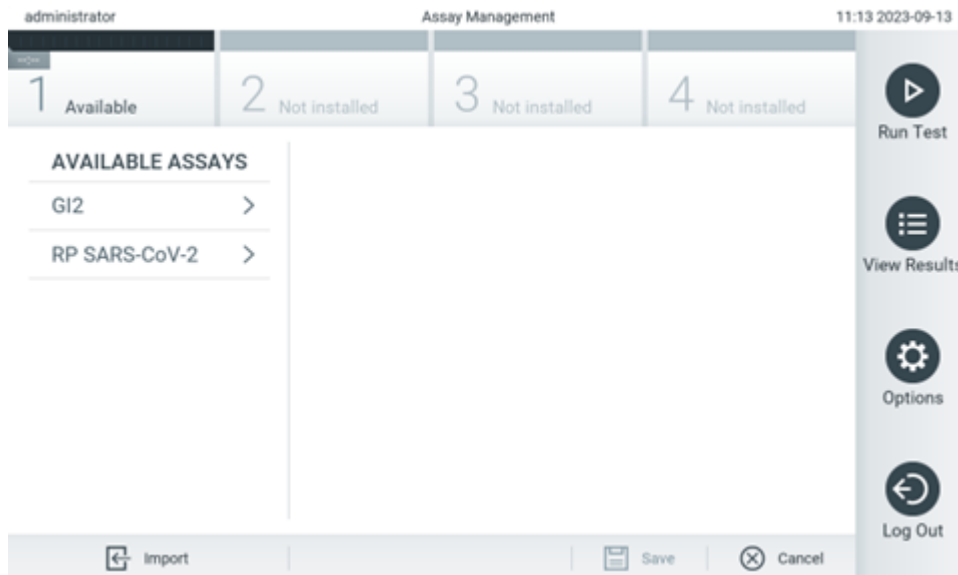

Figure 58. Assay management screen.
2. To import the new assay(s) to the QIAstat-Dx Analyzer 2.0, press **Options** > **Assay Management**. The Assay Management screen appears in the content area of the display (Figure 58).